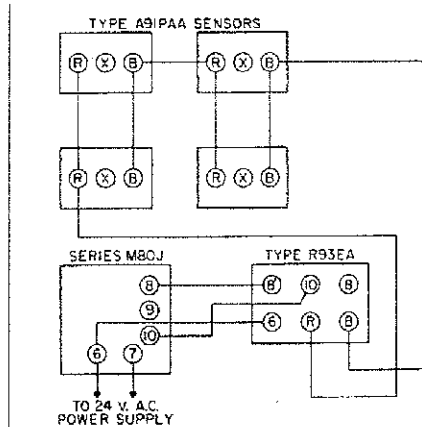

Fig. 5 — Averaging service with 4 Type A91PAA sensors with 40 to 90°F range wired in parallel with Series R93 controller and a Series M80J motor actuator.
4. If four sensors are wired for averaging service, make wiring connections as shown in Figs. 5 and 6.